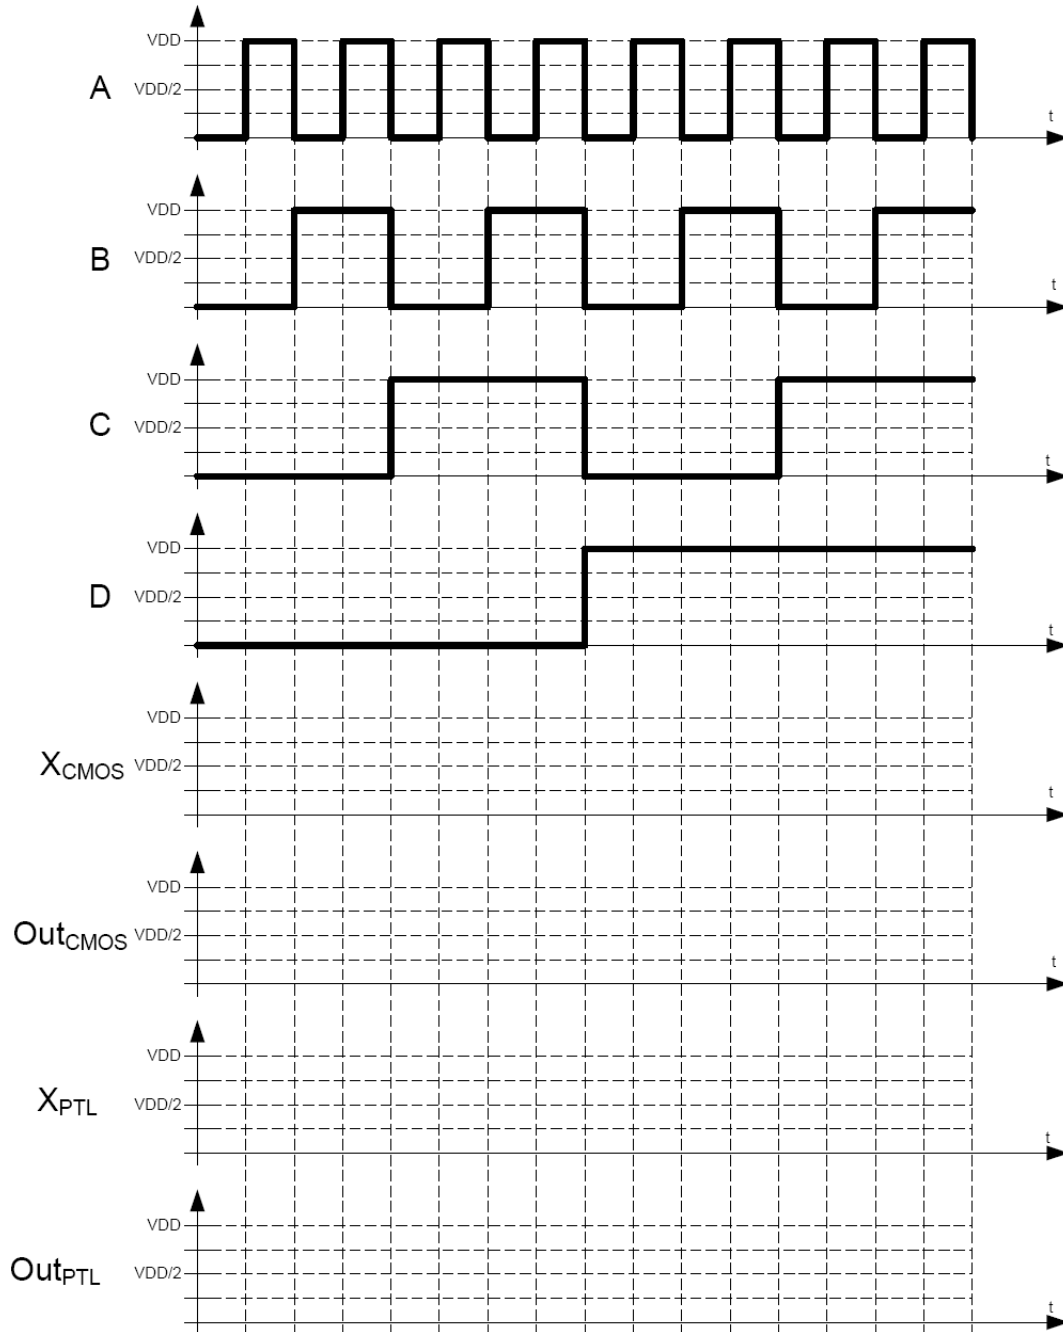

Figure 5. Timing diagram for circuit in Figure 4.
- a. Complete the timing diagram in Figure 5